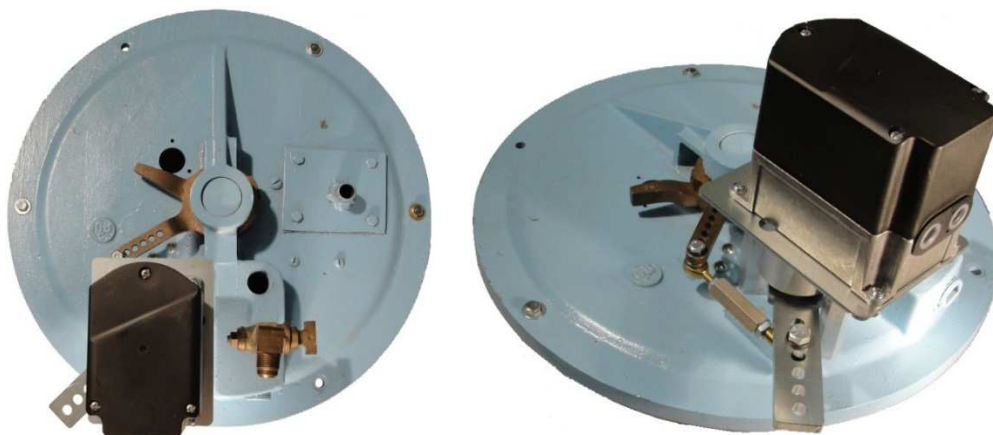

Figure 15: Completed Mechanical Installation
15. The mechanical installation is now complete, and should look similar to Figure 15. **Note: The travel on an SQM45 or SQM48 actuator from the air damper shut stop to the air damper open stop should be approximately 84-86 degrees.**